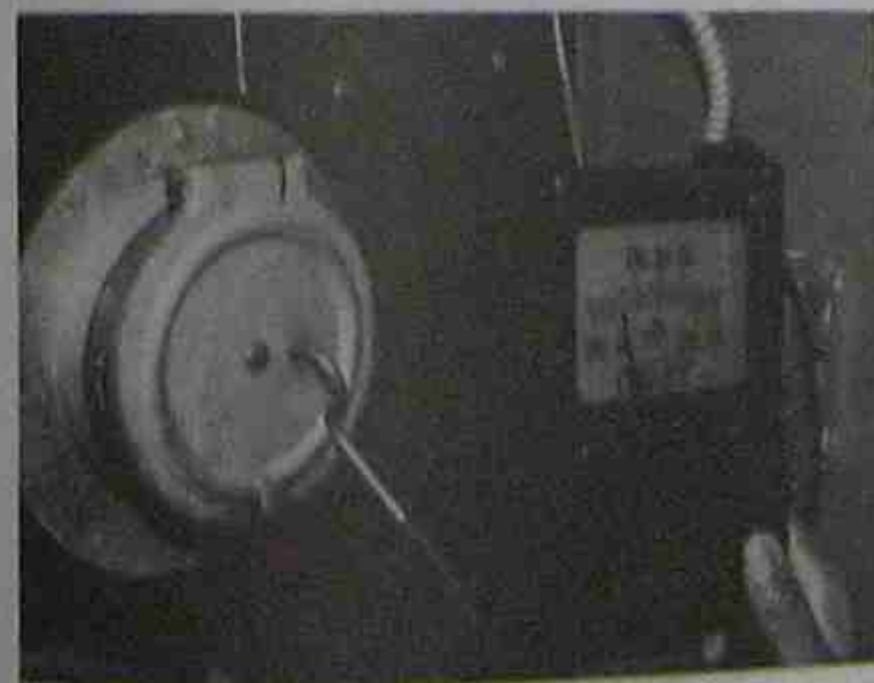

Figure 32-55. Checking overfire draft. Photo by Bill Johnson
- and the bolt hole used for this access.) This is necessary to determine the overfire draft, Figure 32-55.
4. Insert the draft tube into the combustion area to check the overfire draft, Figure 32-55.